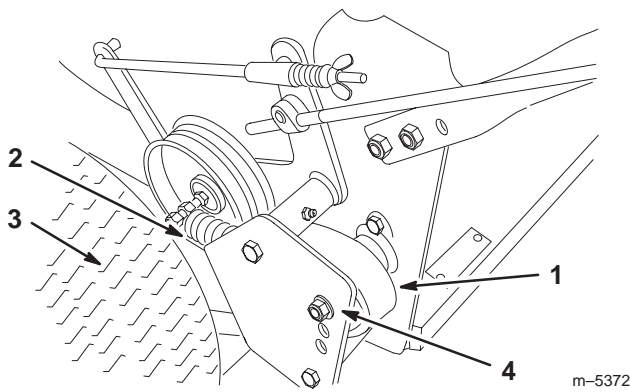

Figure 55
2. Remove the drive spring from adjustment bolt (Fig. 55).